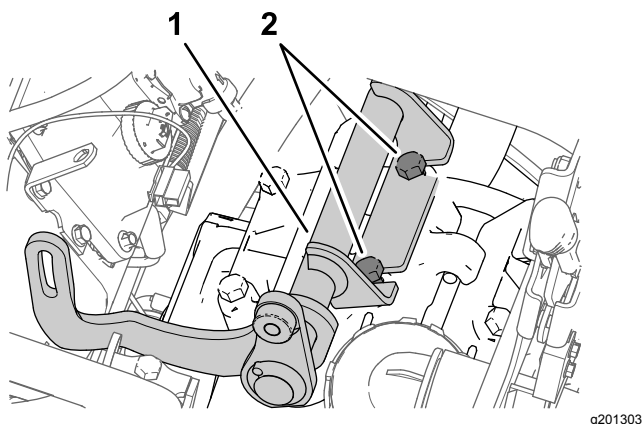

Figure 176
- Align the alternator bracket between the bolts that you loosened and as shown in step 1 and the pump head Figure 176.